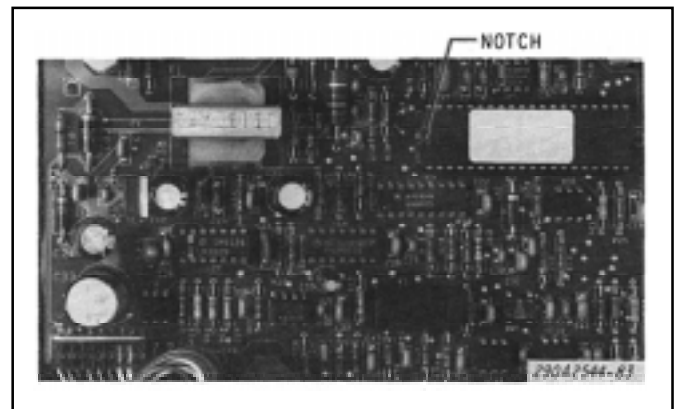

Figure 3-3. Amplifier Circuit Board Microprocessor.
6. See figure 3-3. Insert the new microprocessor IC ("AB" in the part number) in the empty socket. Ensure that the notch on the new microprocessor IC is facing the same direction as the old one (toward the circuit board mounted transformer—T1) and that all IC pins are properly inserted in the socket—not bent under.